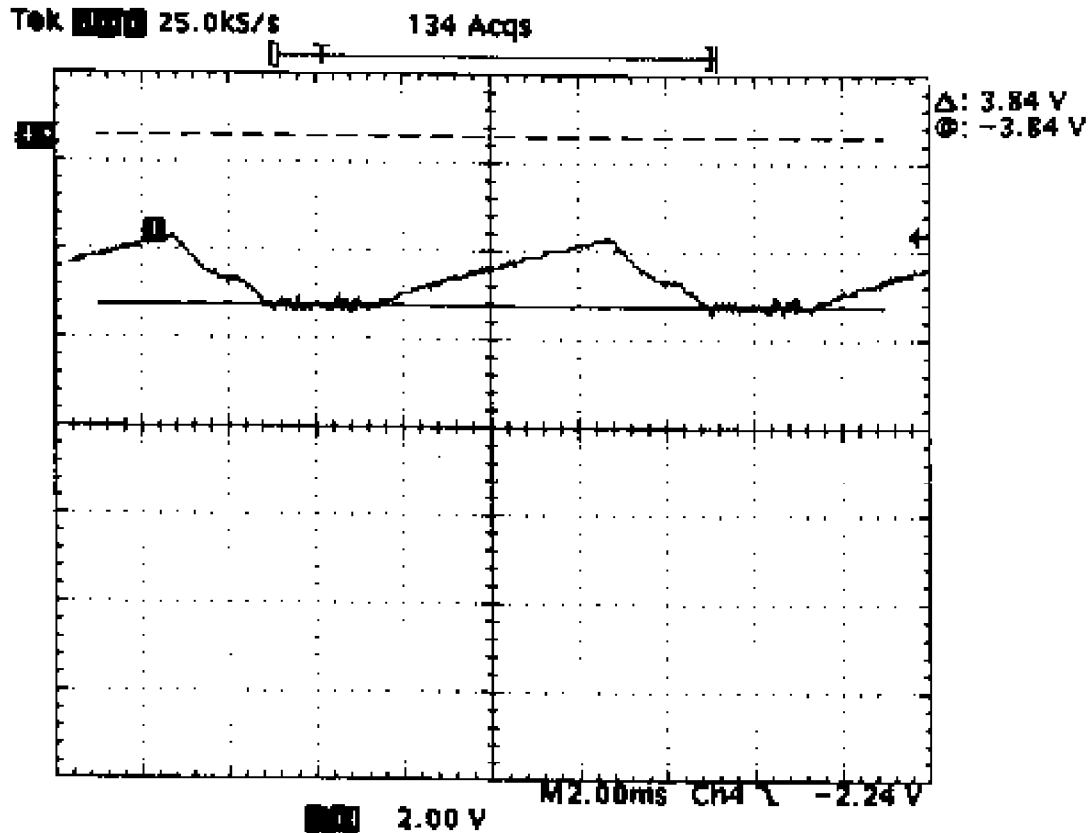
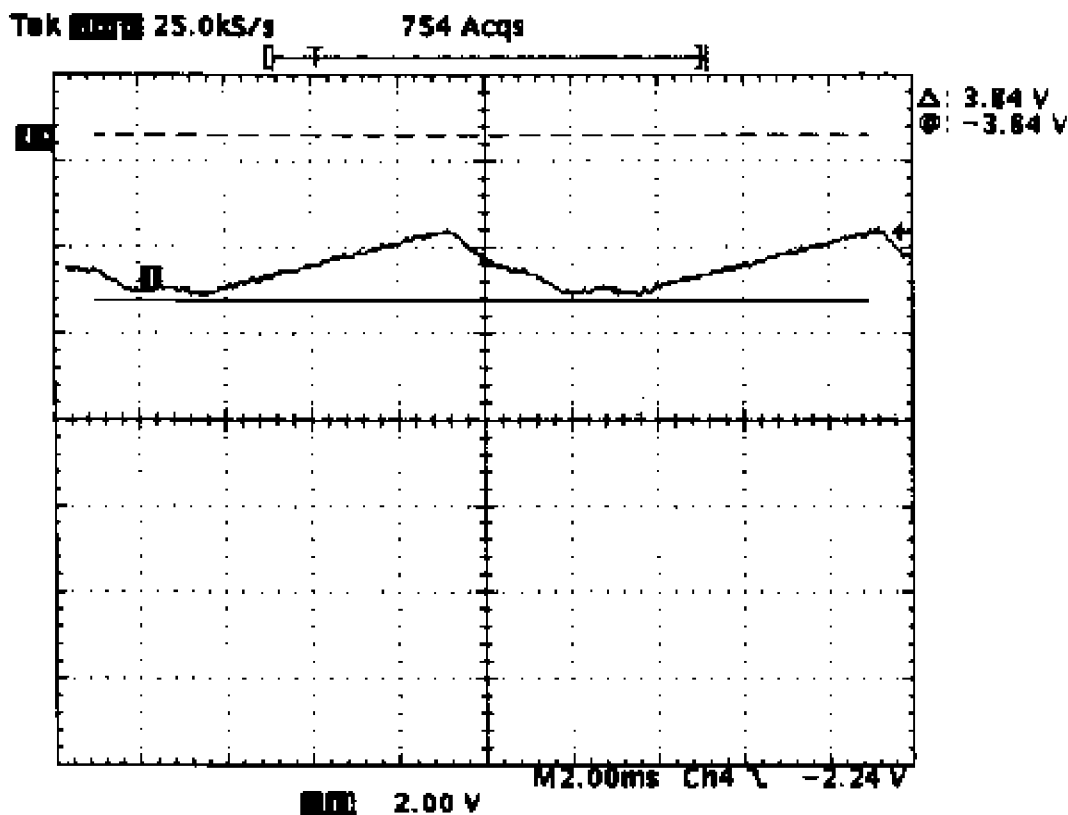

Figure 1
Figure 4
- 2) Study the accompanying Figures 1 thru 5 to become familiar with the possible high voltage waveforms to be encountered during the testing of the high voltage boards. **Read the test procedure completely prior to any testing.**
- First, watch the oscilloscope and be ready to turn off the door switch in case the waveform is not as shown in Figure 1. **Know the waveforms!!!!** Once the waveform is determined to be good, focus attention on the current meter to observe the ramp-up in current.
Good high voltage waveform at full power (300 watts in this case). The increased width of the negative, flat portion is representative of the full waveform timing used to achieve full power. The changing width can be seen as the power ramps up from the startup power of 40 watts (Figure 1) to the full power of 300 watts.
Bad high voltage waveform at startup. This waveform appears as the high voltage starts up. **Note the lack of the negative, flat portion as seen in Figure 1.** As the power ramps up to 300 watts, the negative, flat portion will not occur. This is apparent in Figure 4. Also, the magnetron current level will likely be zero or very low since there is not enough high voltage to cause the magnetron to conduct current.